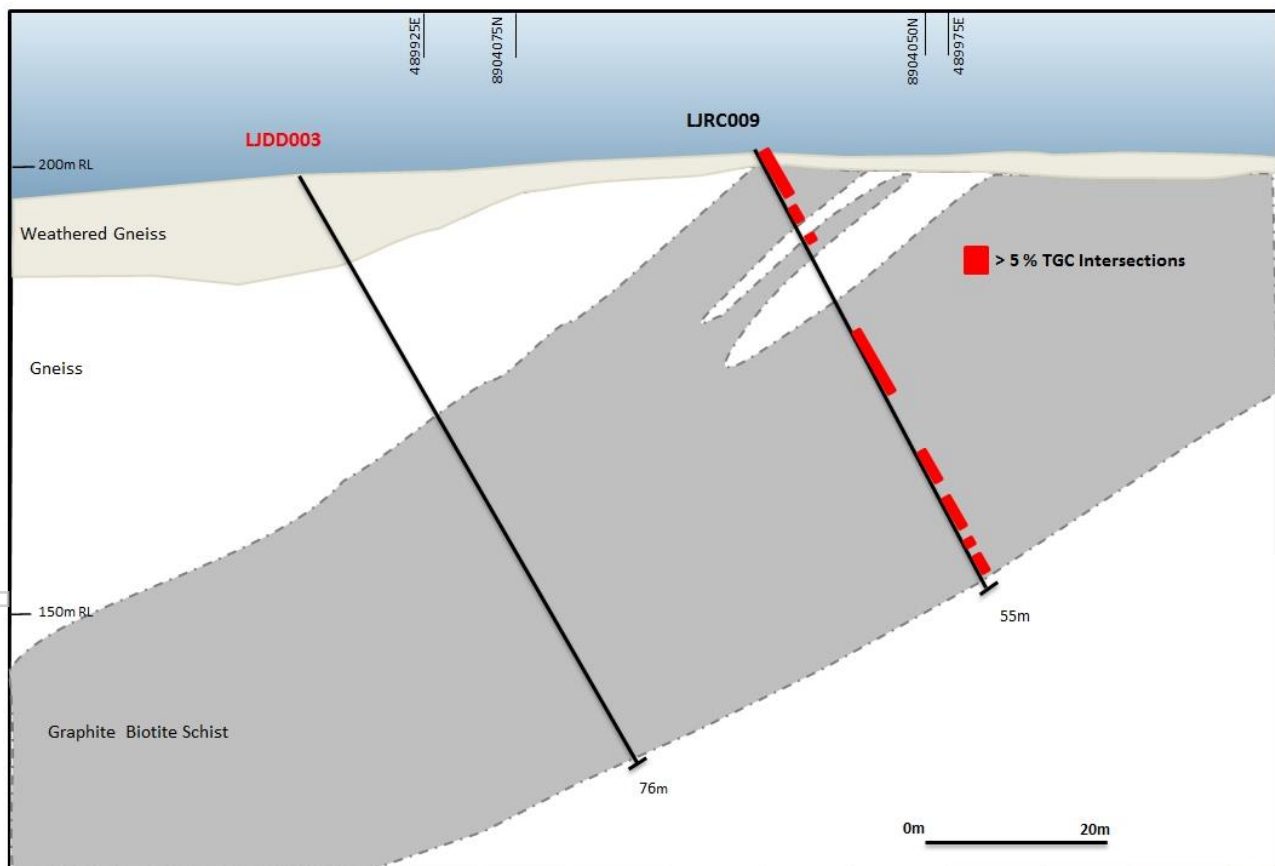

Figure 2: Section AB through holes LJRC009 and LJDD003 (results pending)
- Hole No. LJRC009 intersected bands of high grade graphitic schists from surface for 13 metres and again from 17 metres for 36 metres including one metre at 37.5% TGC (see Figure 2 and Table 1).